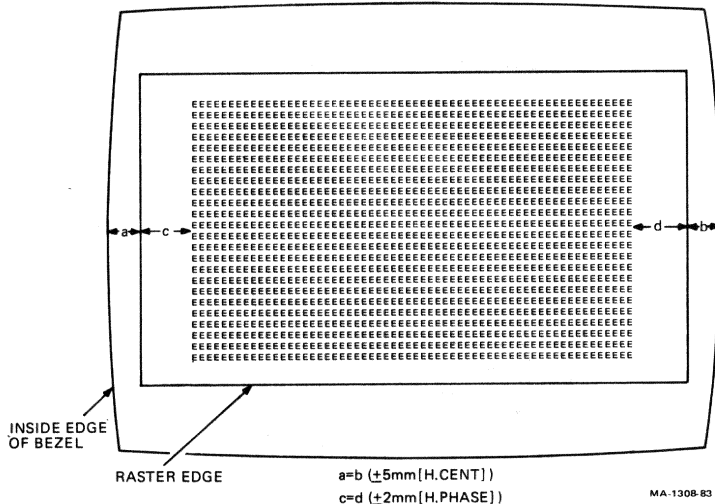

Figure E-7 Horizontal Centering Check/Adjustments
ESC # 8 (See Figure E-7.)
7. Turn horizontal centering (H. CENT) control until distance a from left center of raster to bezel and distance b from right center of raster to bezel are within 5 mm of each other. (See Figure E-7.)
ESC # 8 (See Figures E-7 and E-8.)